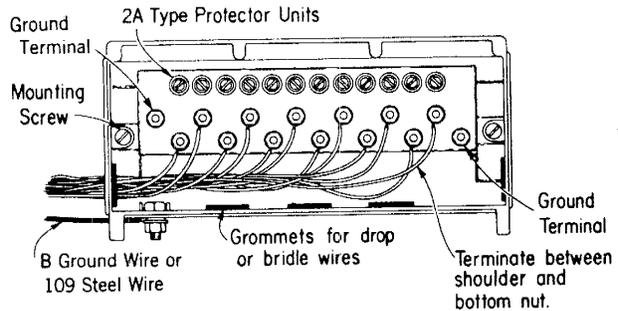

Fig. 1 - 116D Protector (cover omitted for clarity)
2.02 The internal wiring for a 116D Protector and a 104B Wire Terminal is shown in Figs. 1 and 2, respectively.